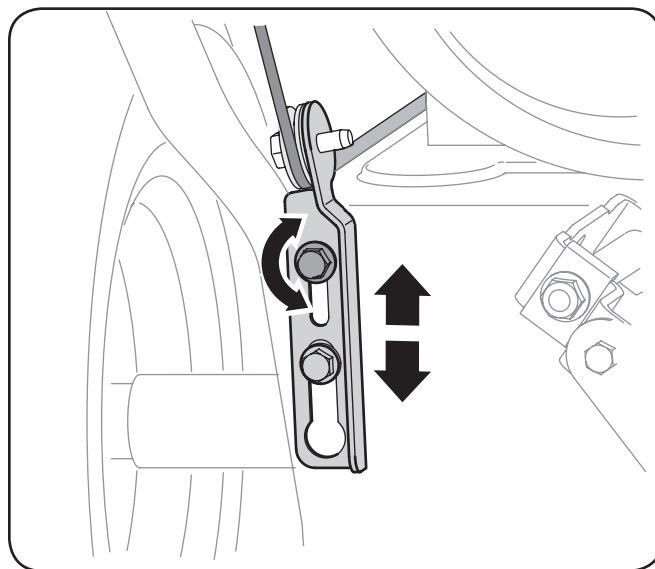

Figure 3-16
4. Allow the auger to remain engaged for approximately ten (10) seconds before releasing the auger control. Repeat this several times.
8. Position the bracket upward to provide more slack (or downward to increase cable tension). See Figure 3-16.